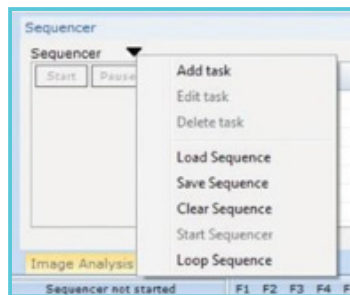

Figure 2.26 Sequencer drop down menu
1. Click on the sequencer triangle icon and select Add task (see figure 2.26).